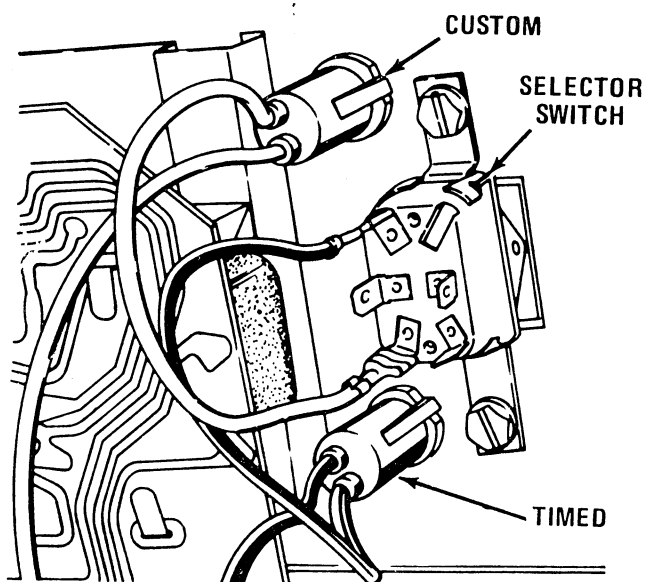

Figure 19B, Custom or Timed Selector Switch
2. The CUTSOM or TIMED cycle switch, refer to Figure 19B.
The CUSTOM or TIMED selector switch is a double-pole, double-throw switch. It is mounted to the control bracket in the console with two screws, *refer to Figure 19B*. The CUSTOM and TIMED indicator lamps are controlled by this switch.